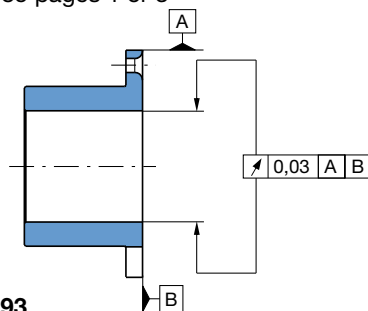

Fig. 93
- Shaft run-out and axial run-out tolerances: 0,03 mm (Fig. 93)